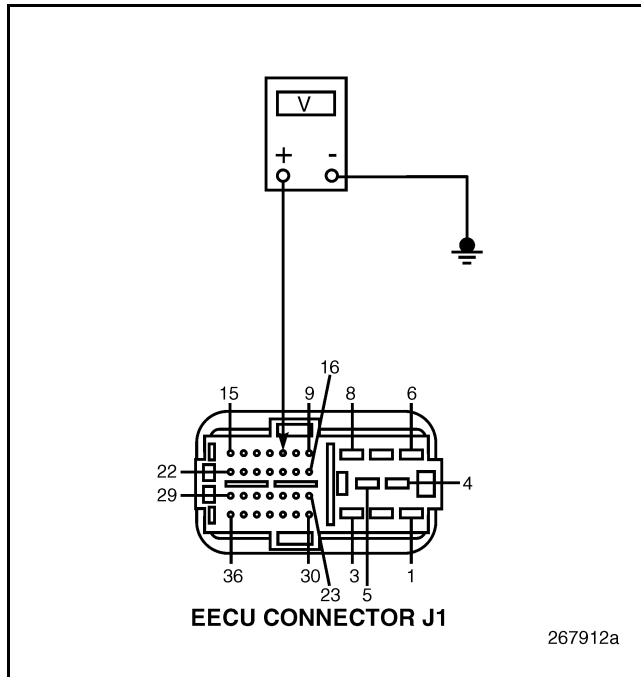

Figure 112
4. Measure the voltage between Engine Electronic Control Unit (EECU) connector J1 pin 11 and a good ground (see Figure 112). If the measured voltage is less than 0.5 volts AC, inspect EECU connector J1 pin 11 for dirt, looseness, or any damage that could cause a short circuit to voltage. If repairable damage is found, repair the connector and then replace the EECU. If the damage is not repairable, replace the connector and then replace the EECU. If EECU connector J1 is undamaged, replace the EECU. If the measured voltage is greater than 0.5 volts AC, locate and repair the short circuit to voltage and replace the Engine Electronic Control Unit (EECU).